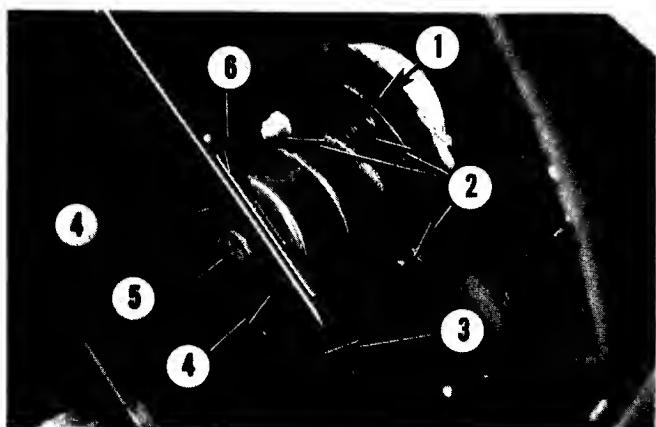

FIG. 10.3-BLADE SPINDLE DETAIL
3. Loosen outboard spindle housing nuts, No. 2, Fig. 10.3, one turn only.
8. Tighten spindle housing bolts, Fig. 10.3 to 30-35 ft.-lbs. torque. Reinstall belt covers.